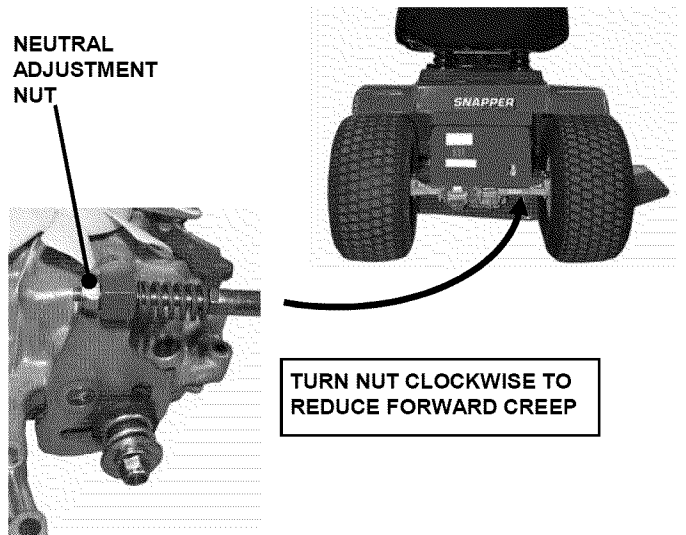

FIGURE 4.10
3. Locate neutral adjustment nut underneath the right rear of the tractor. See Figure 4.10